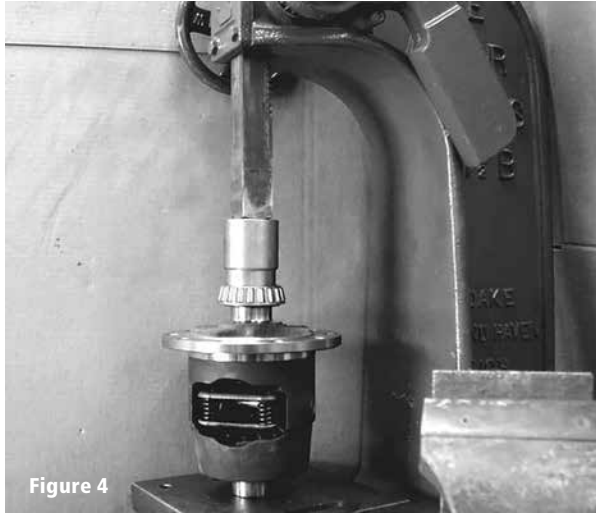

Figure 4
19. Install the differential bearing cones onto the bearing hubs of the differential case using the proper installation tool. See Figure 4.